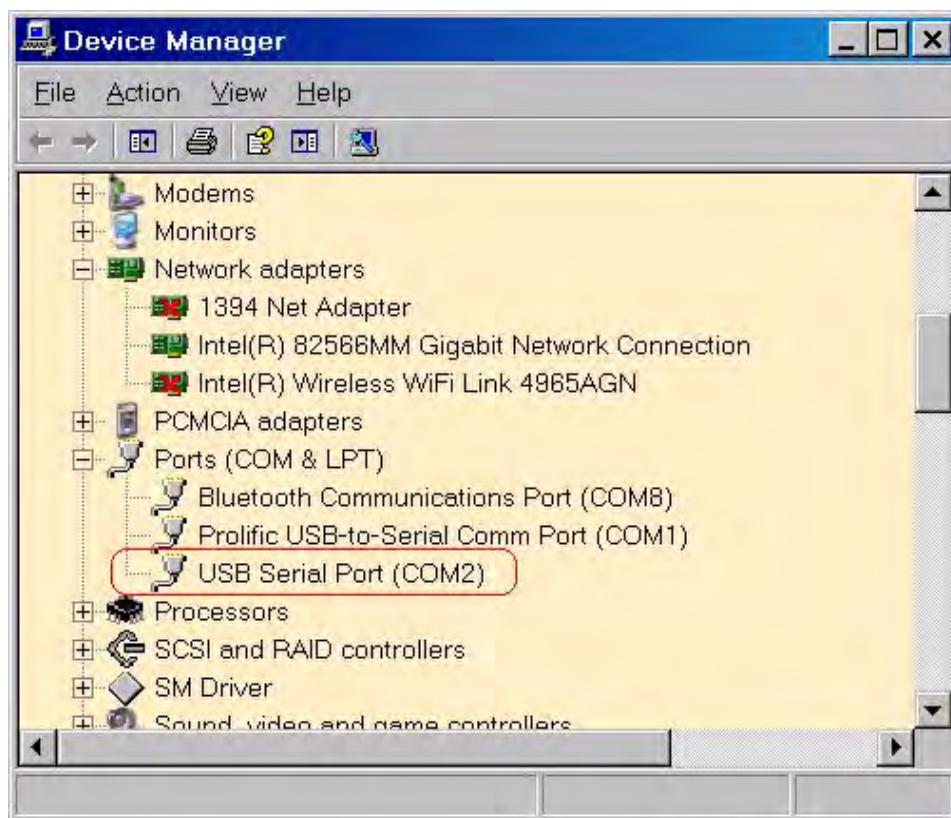

Figure 11. A Successful USB-to-UART Driver Installation
5. If the driver installation was successful, the *Ports (COM & LPT)* section of the Device Manager will display *USB Serial Port (COMx)* or similar message, as highlighted in Figure 11.